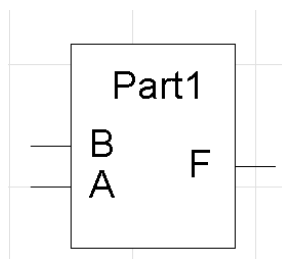

Figure 10-18
- Click the Generate button. This will create a symbol. You can modify the symbol graphics if you want. See figure 10-18.